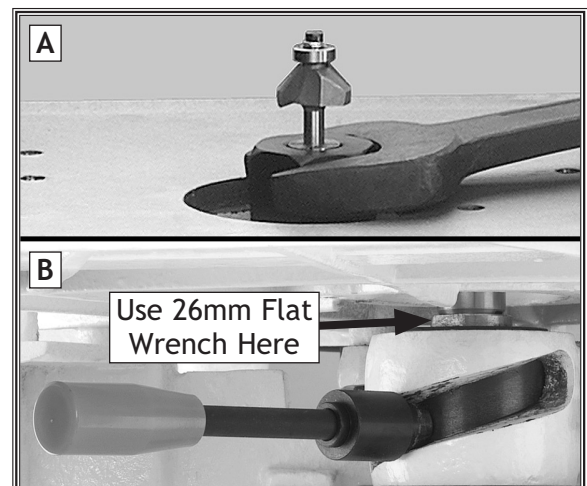

Figure 28. Installing a router bit.
6. Using the 26mm special flat wrench, insert it under the table and hold the spindle stationary (see **Figure 28-A**) while using the 30mm wrench to tighten the collet securing the router bit (see **Figure 28-B**).